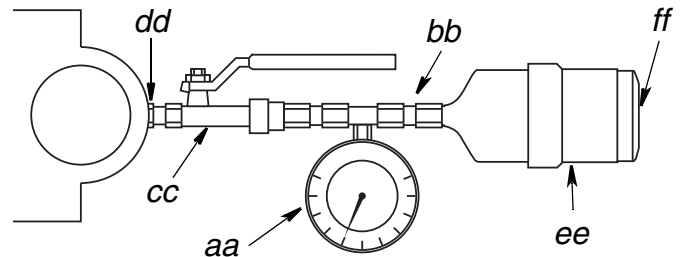

FIG. 1
4. Remove the plug (A).
5. Install lubricator unit into adapter (B).
6. Screw a pressure manometer into the lubrication point (dd) (FIG. 1).
A pressure manometer is a simple device that measures pressure output. To build a pressure manometer you need a pressure gage (aa), tee fitting (bb) and stop valve (cc). FIG. 1 shows a correctly assembled pressure manometer, connected to the lubricator and a lubrication point.
8. Attach lubricator and adapter (B) to the pressure manometer (aa - cc) and turn the switch to "ON" (ff) (FIG. 1).